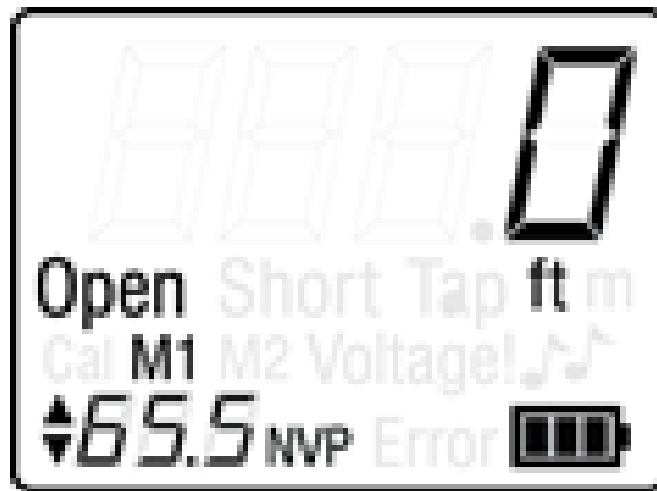

Figure 4. LCD Display Screen in Memory Storage
3. Press the MEM button to recall the stored NVP Value. The LCD display screen, illustrated in Figure 4 below, shows the following: